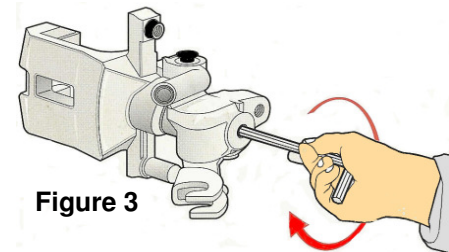

Figure 3
- ✓ Screw in the hexagon socket screw in a clockwise direction (**Figure 3**) until the brake shoes touch the brake disc and the brake disc becomes difficult to turn.